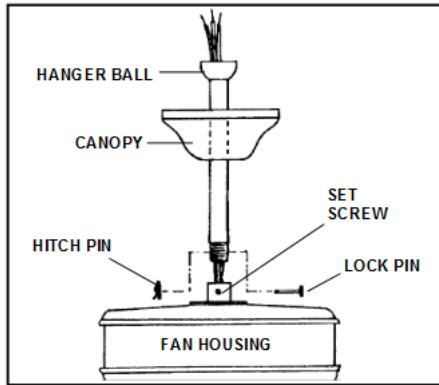

FIG. 9
Step 5. Slip canopy onto downrod. (Fig. 9). Carefully reinstall hanger ball onto rod being sure that crosspin is in correct position, set screw is tight and wires are not twisted.